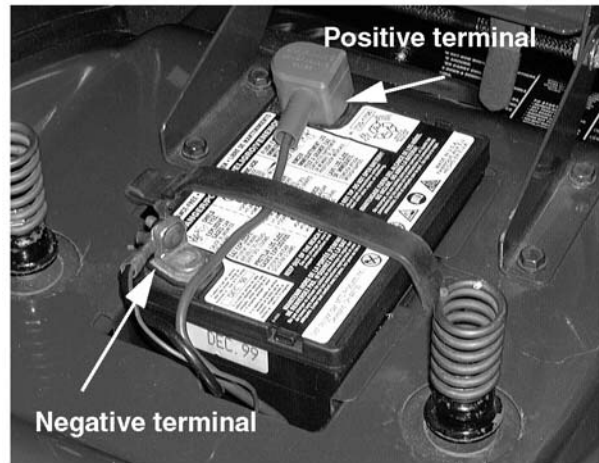

Figure 8-43.
1. Pivot the tractor seat forward to expose the battery. See Figure 8-43.